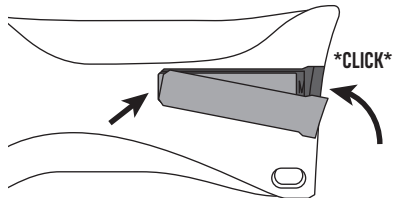

Fig 3
3. REPLACE THE BATTERY COVER - Ensure the Battery Door is closed, by pushing the latch forward until it clicks. (Fig 3)